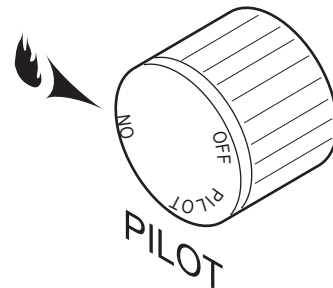

Figure 49 - On Position
Depress and turn the knob counterclockwise ↶ to the "ON" position. *Figure 49*. It will take less than four (4) seconds for the burner to ignite.